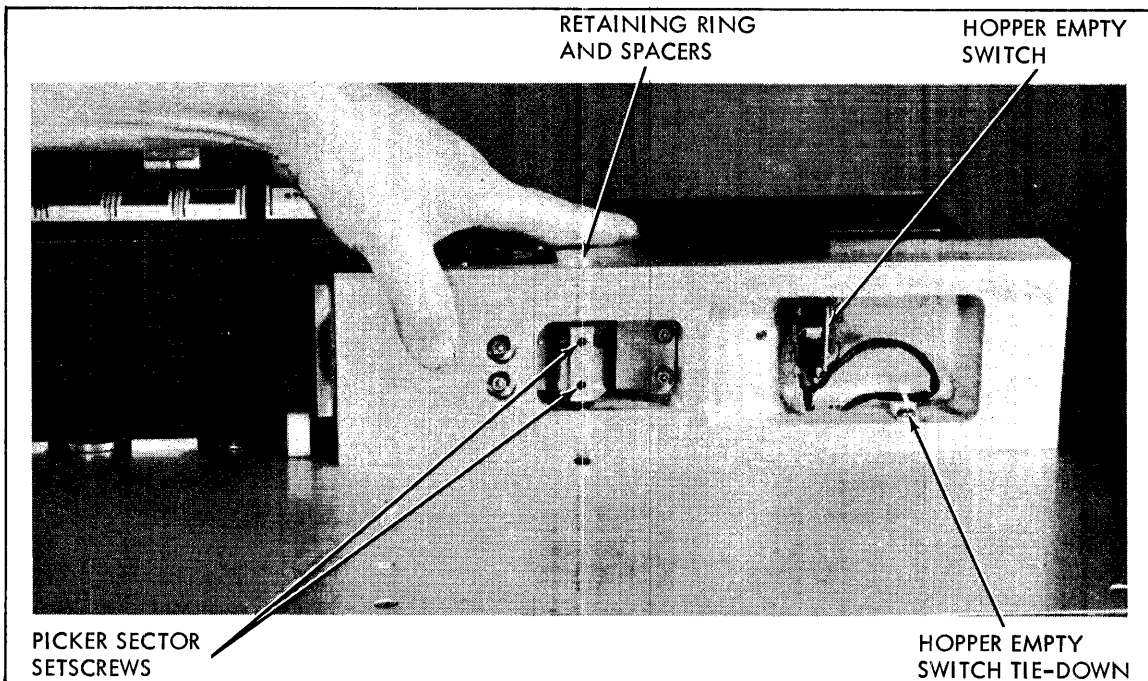

Figure 9-15. Picker Sector Retaining Ring, Spacers, and Set Screws and Hopper Empty Switch
9. Remove hopper empty switch cable tie-down in picker support assembly, figure 9-15.
1. Carefully set picker support assembly in place over top plate mounting holes, figure 9-15.
4. Apply hand pressure between picker and stacker support assemblies as shown in figure 9-15. Hold that pressure and tighten six screws.
- g. Using #2 retaining ring remover, remove retaining ring from top of picker shaft, figure 9-15.
- o. Using a six inch metal ruler, measure from top plate to middle row of holes on picker sector. Move picker sector until ruler measures 1.625 inches. Retain picker sector position and tighten two picker sector set screws, figure 9-15.